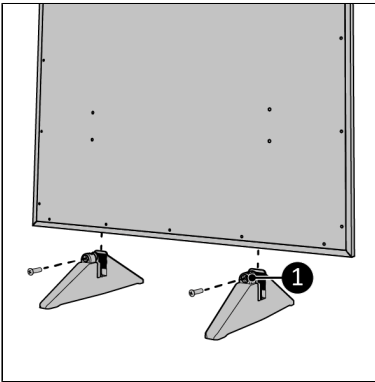

Figure 35.
2. Screw and tighten the pedestals (Figure 35, pos. 1).